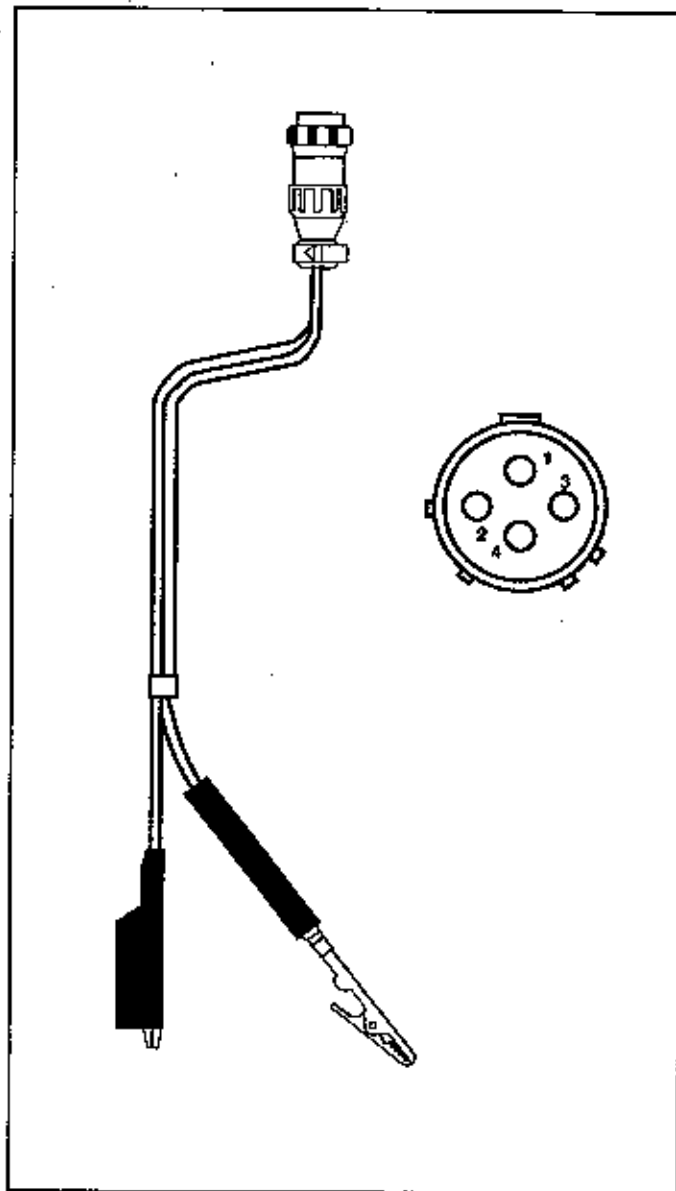

Figure 204
**Volts Search (See Figure 204)**